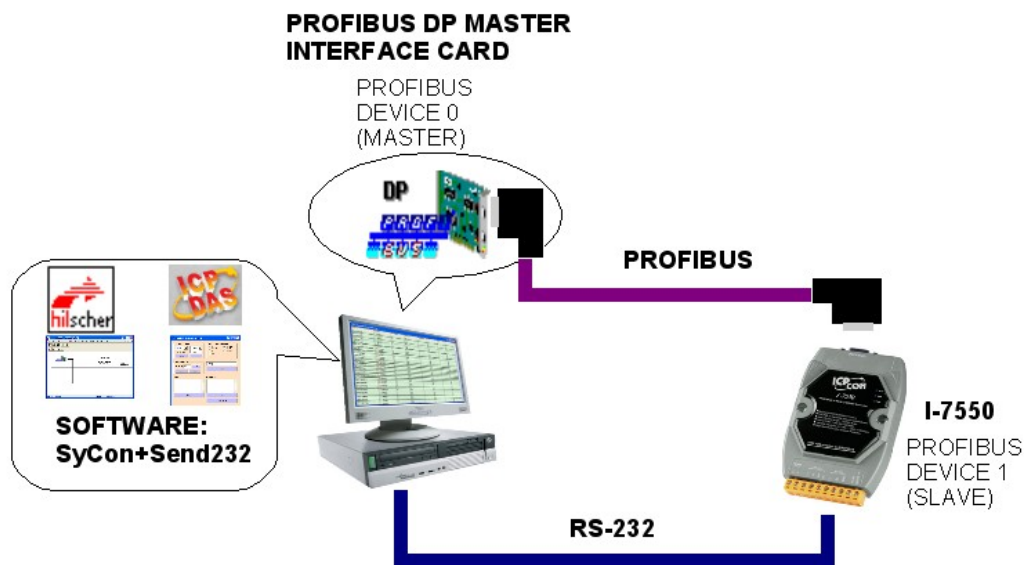

Figure 24 PROFIBUS to RS-232 connection
Step 2: The connection of PC, CIF50-PB PROFIBUS master card and i-7550 is shown in figure 24